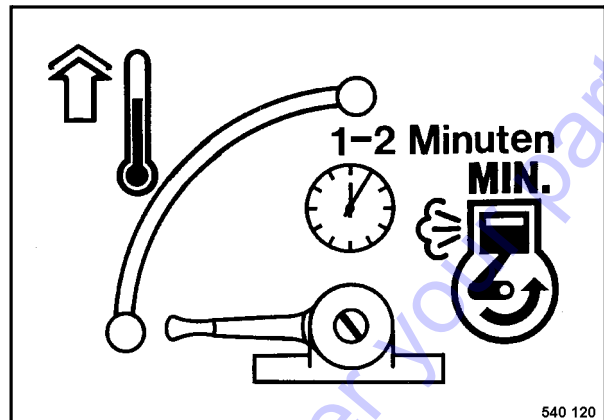

Fig. 7
- Set the throttle lever (Fig. 7) to position "MIN" and warm the engine up for 1 to 2 minutes.